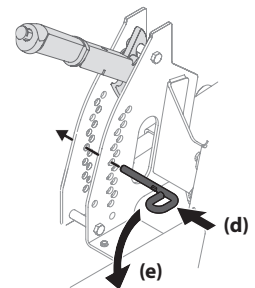

Figure 15
2. Insert the pin into the desired deck height best suited for your application (d). Turn the pin to lock it into place (e). See Figure 15.